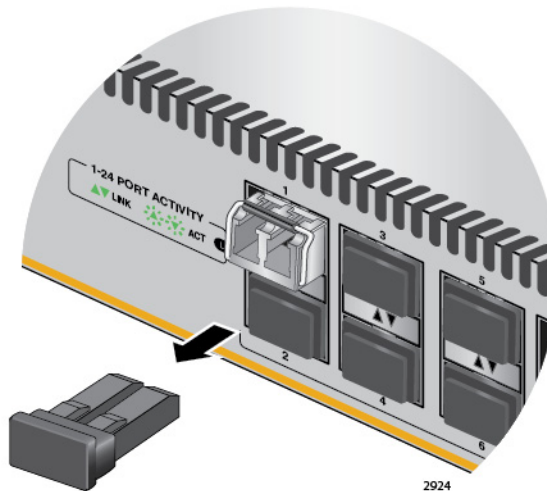

Figure 24. Removing the Dust Cover from an SFP Transceiver
5. Remove the dust cover from the transceiver, as shown in Figure 24.